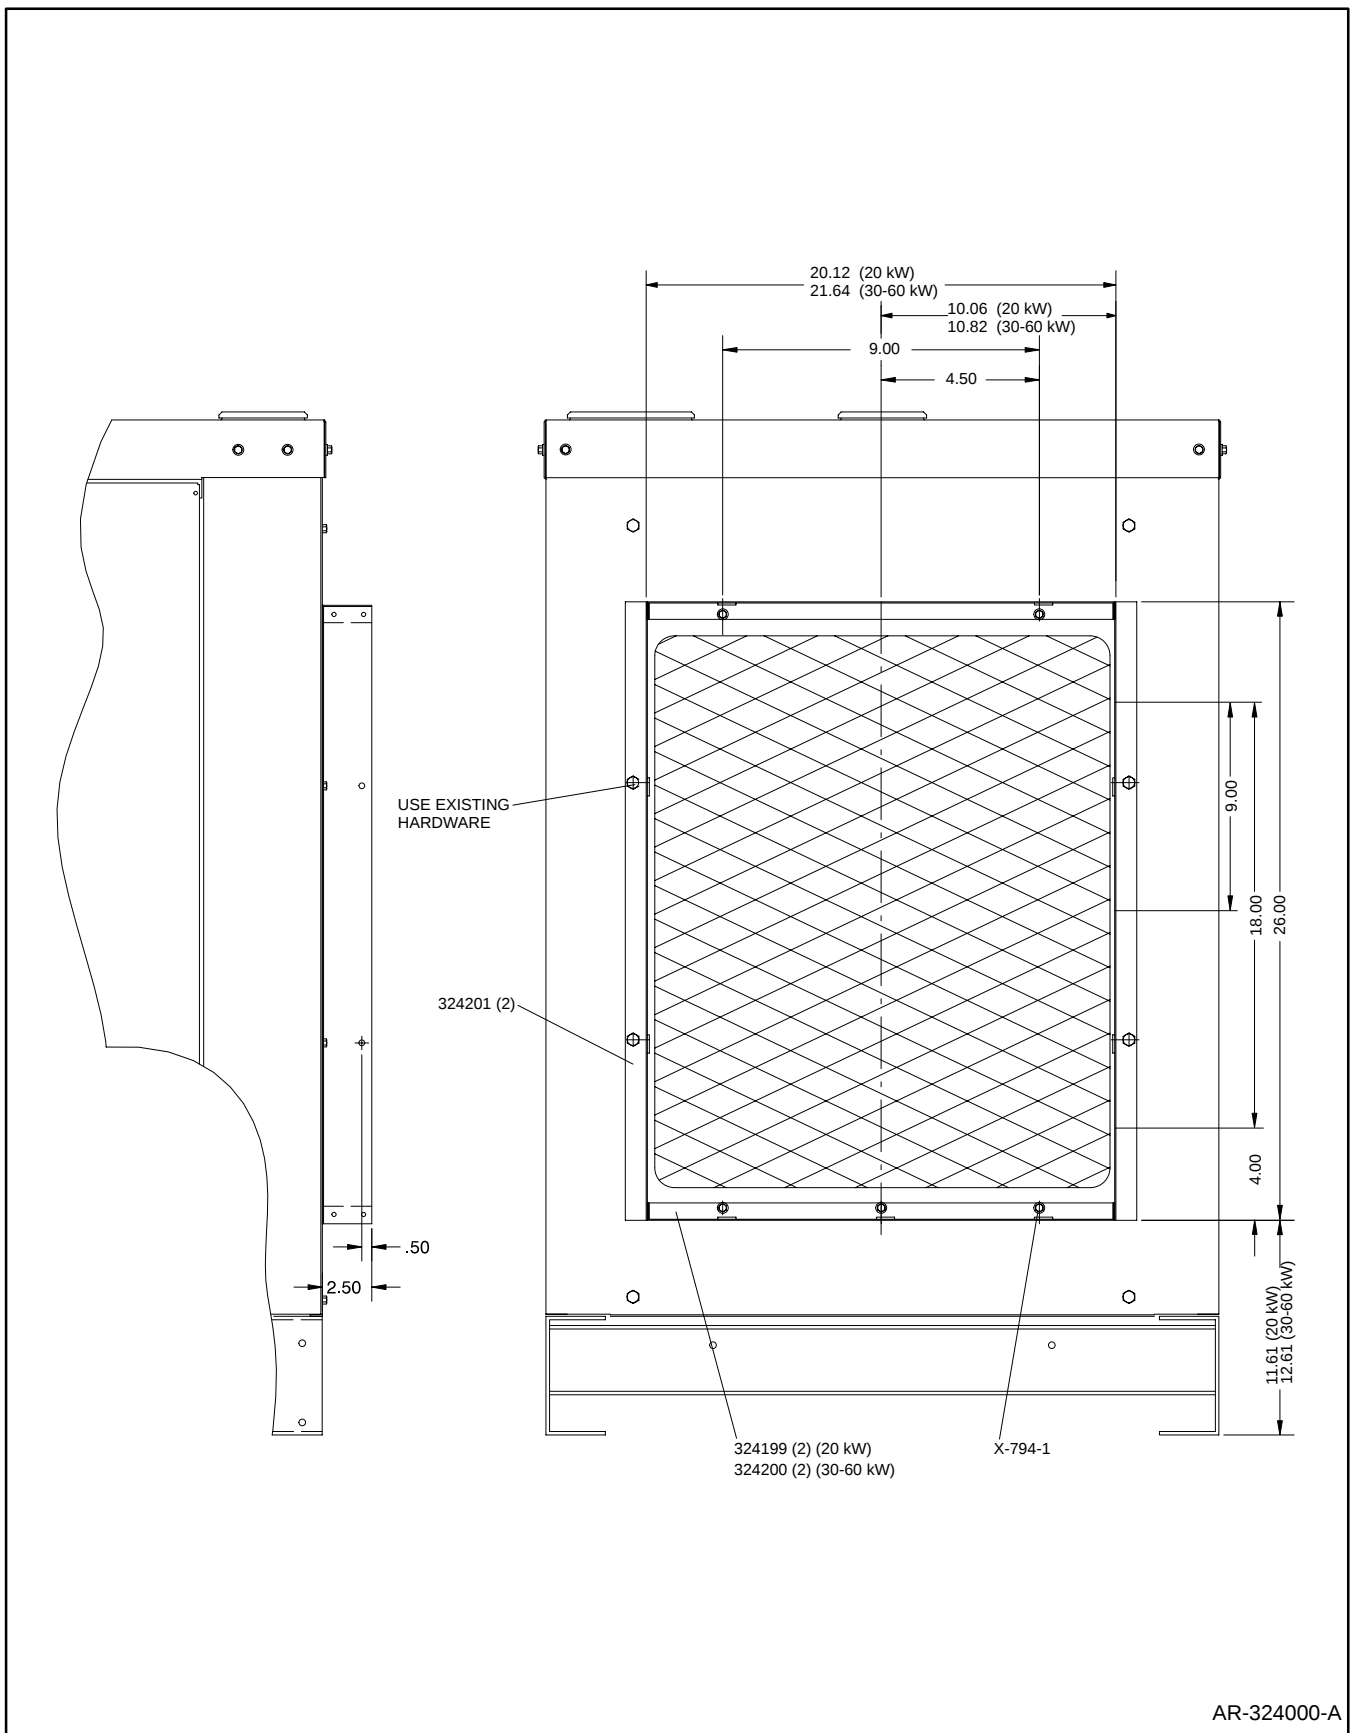

Figure 4. Radiator Duct Flange Mounting
5. Remove drill screws attaching radiator duct flange to radiator shroud, if installed. See Figure 4. Do not remove bolts attaching radiator duct flange to the sound shield enclosure.
10. Align radiator duct flange to radiator shroud. Attach radiator duct flange to radiator shroud using four drill screws (X-794-1). Predrill mounting holes if an impact wrench is not available. See Figure 4.